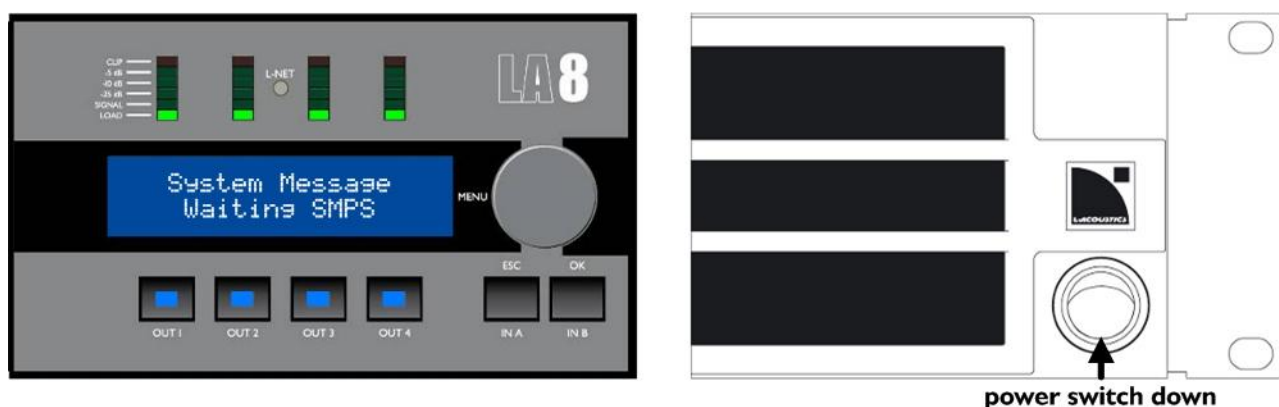

Figure 14: Shutdown sequence
- ▶ Press the power switch down to power the LA8 off, see Figure 14.